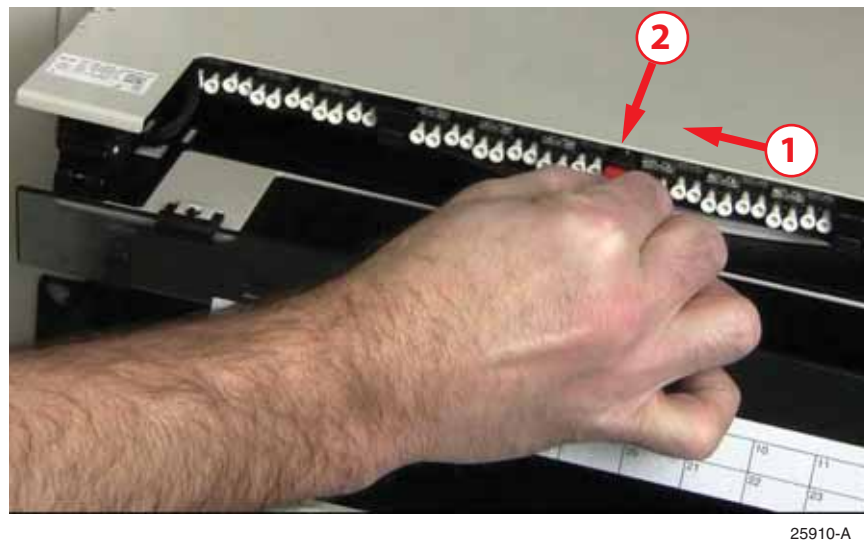

Figure 26. Pulling Tray Forward to Locked Operation Position
10. Using the red latch, rotate the tray clockwise and pull the tray forward to the locked operation position as shown in Figure 26.